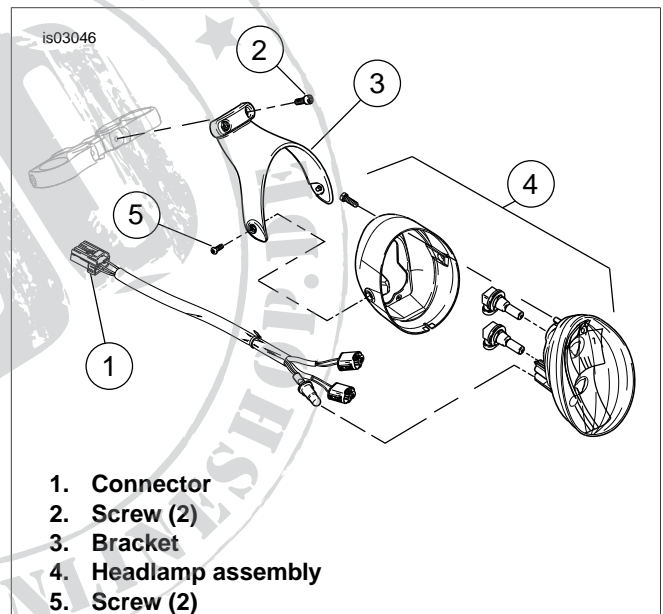

Figure 1. VRSCA Headlamp Assembly
3. See Figure 1. Disconnect headlamp connector (1) from vehicle wire harness.
4. Remove two screws (2), headlamp mounting bracket (3), and headlamp assembly (4) from upper bracket.